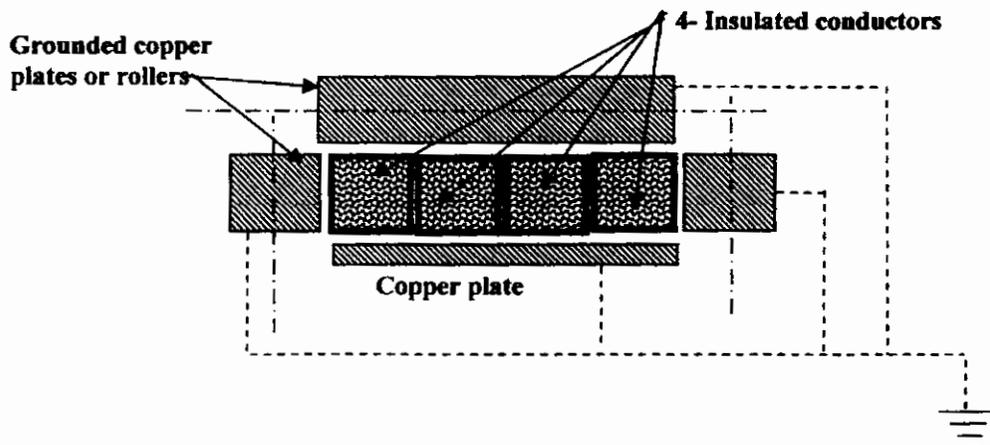

Figure 11-Schematic of Turn Insulation Tester
- 6.10.5 During the winding process, the pre-insulated copper rope conductors will be scanned with an electrical short indicator that will identify any copper fibers that may protrude from the insulation causing turn to turn or turn to ground shorts. Figure 11-Schematic of Turn Insulation Tester